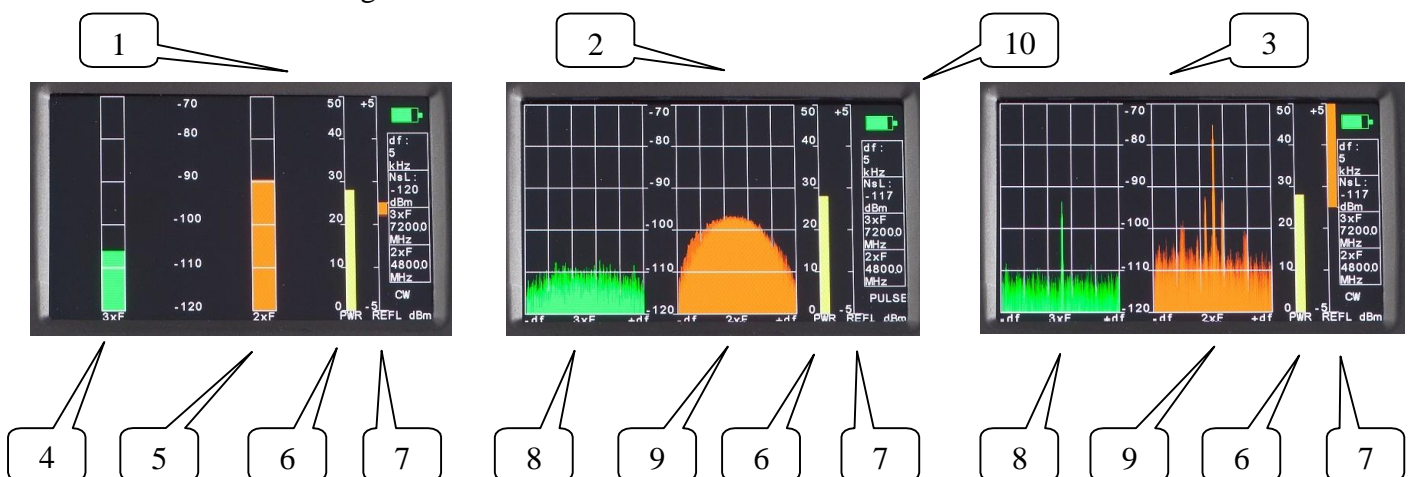

Fig.3, where
4.3. A replaceable transmitter head with a spectrum analyzer (options //08s and //24s) shows indication at the graphic display. Fig. 3 shows possible display formats for receiver power level, levels of the 2nd and 3rd harmonics received signals, spectra of the 2nd and 3rd harmonics received signals, a level of the 1st harmonic reflected signal.